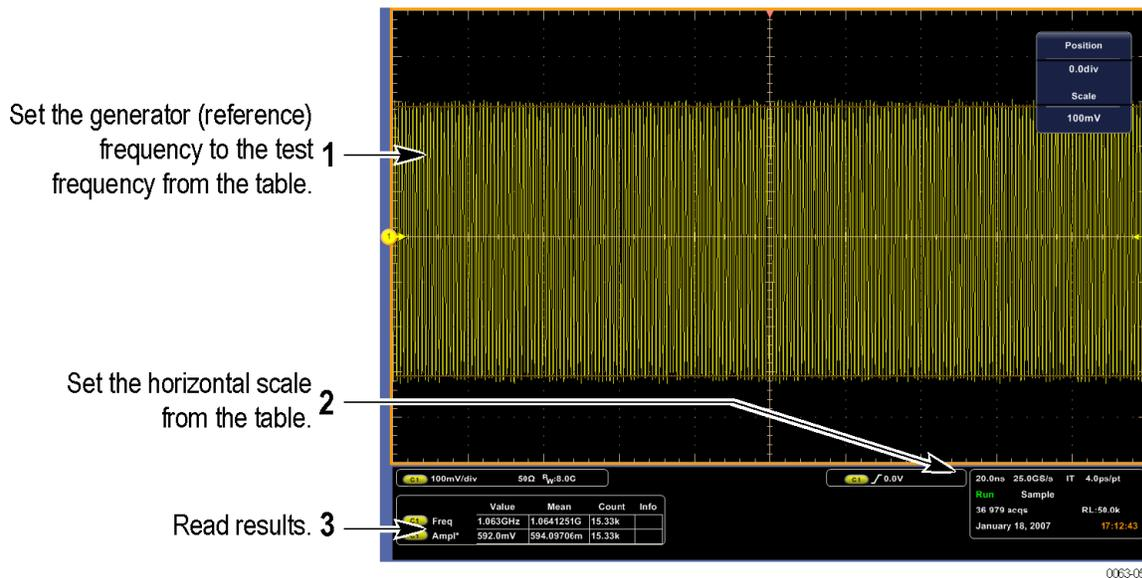

Figure 23: Measurement of analog bandwidth
- All instruments except the MSO/DPO71254C and MSO/DPO72504DX: Read the results at the Chx Amplitude mean readout, which will automatically measure the amplitude of the test signal. (See Figure 23 on page 295.)